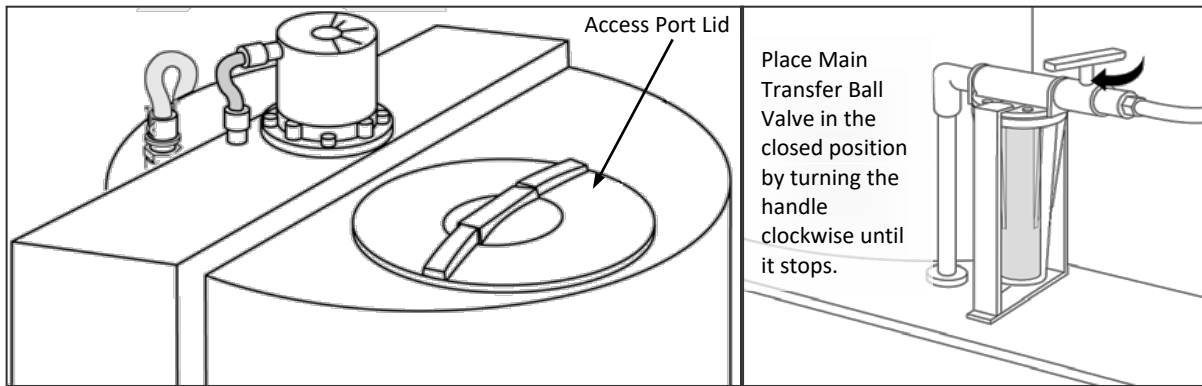

Figure 1
1. Before initiating the *RINSE CYCLE*, the operator must ensure that the GranuFlo I Dissolution Unit Access Port Lid is in place (do not fully secure), and the Main Transfer Ball Valve is in the CLOSED position. Make sure the input water source is in the ON position (Figure 1).